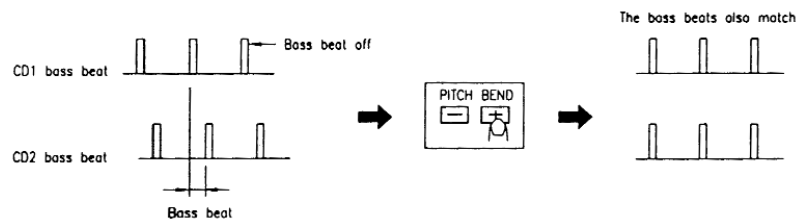

Fig. 15
- Figure 15 shows an example of how to use the pitch bend function. In this example, both players are playing and the BPM has already been matched with the pitch sliders.